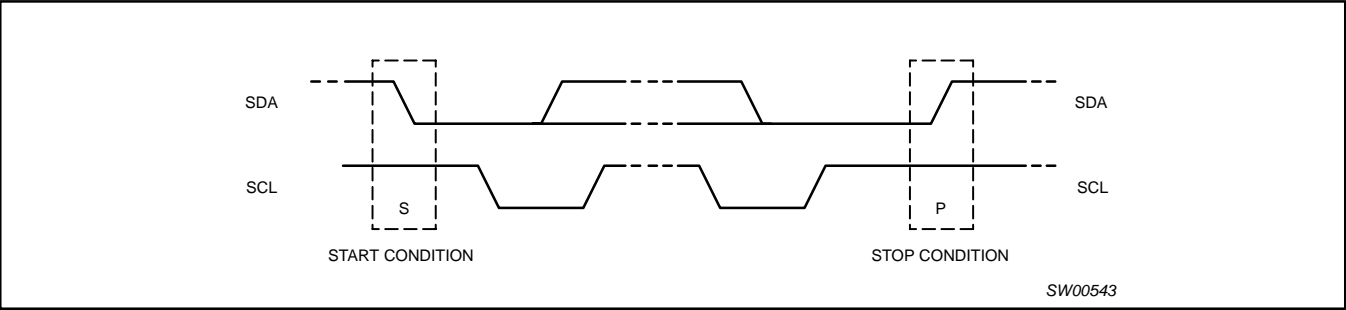

Figure 17. Definition of start and stop conditions
Both data and clock lines remain HIGH when the bus is not busy. A HIGH-to-LOW transition of the data line, while the clock is HIGH is defined as the start condition (S). A LOW-to-HIGH transition of the data line while the clock is HIGH is defined as the stop condition (P) (see Figure 17).